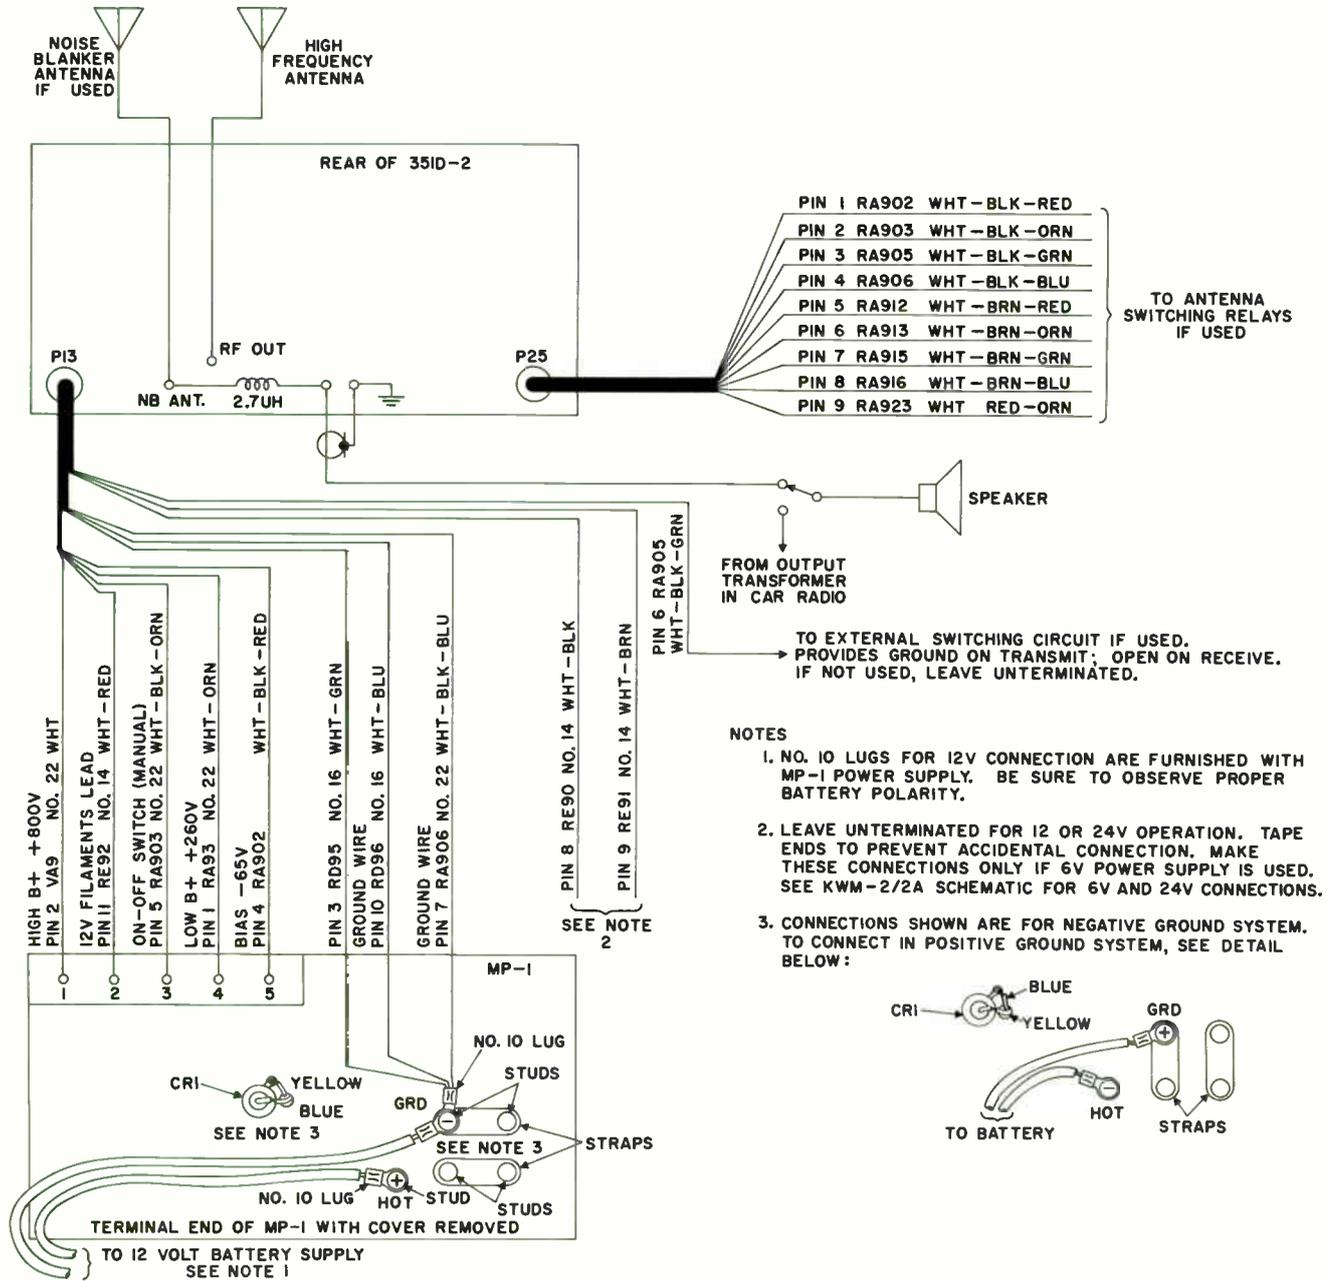

Figure 1-4. Mobile Station Interconnections
For fixed station installation, refer to figure 1-1 or 1-3. For mobile installation, refer to figure 1-4. Traveling station interconnections are shown in figure 1-2.
c. Determine necessary length of power cable (furnished with 351D-2 Mobile Mount) to connect the MP-1 to the KWM-2/2A, and cut to required length. Connect power supply, speaker, and microphone as shown in figure 1-4.
Before making connections to the automobile electrical system, make sure the primary circuits in the MP-1 are connected for proper ground polarity. Correct connections for either positive or negative ground systems are shown in figure 1-4.
e. No mobile speaker is supplied. If desired, the speaker leads may be connected in parallel with the car radio voice coil terminals. If the car radio has a transistor output stage, connect the terminals of the car speaker as shown in figure 1-4. Break voice coil lead, and install a switch for transfer of speaker from car radio to KWM-2/2A. If installation is in boat or plane, use any good 4-ohm speaker and mount as desired.
(1) Use resistor-type spark plugs.
(2) Install coaxial bypass capacitors at ignition coil, generator, and voltage-regulator leads. Use bracket-mounted coaxial capacitors in the battery and generator leads to the voltage regulator and a 0.005-uf (or smaller) disc ceramic or mica capacitor from the field lead to ground. DO NOT use larger than 0.005-uf capacitor here unless a 4-ohm resistor is placed in series with it.
(3) If capacitor bypasses are not satisfactory, remove them, and use chokes in series with the leads from field and armature terminals of generator. Place these chokes as close to the voltage regulator as possible.
(4) For the field lead choke, wind 12 turns of no. 18 wire on a 1/4-inch diameter powdered-iron core. For the armature lead, wind 12 turns of no. 14 or larger wire on 1/4-inch diameter powdered-iron core.
(5) Ground the rear end of the exhaust pipe to the car body with copper braid, using a radiator hose clamp to secure the braid to the tailpipe. General information concerning noise suppression is available in current handbooks.